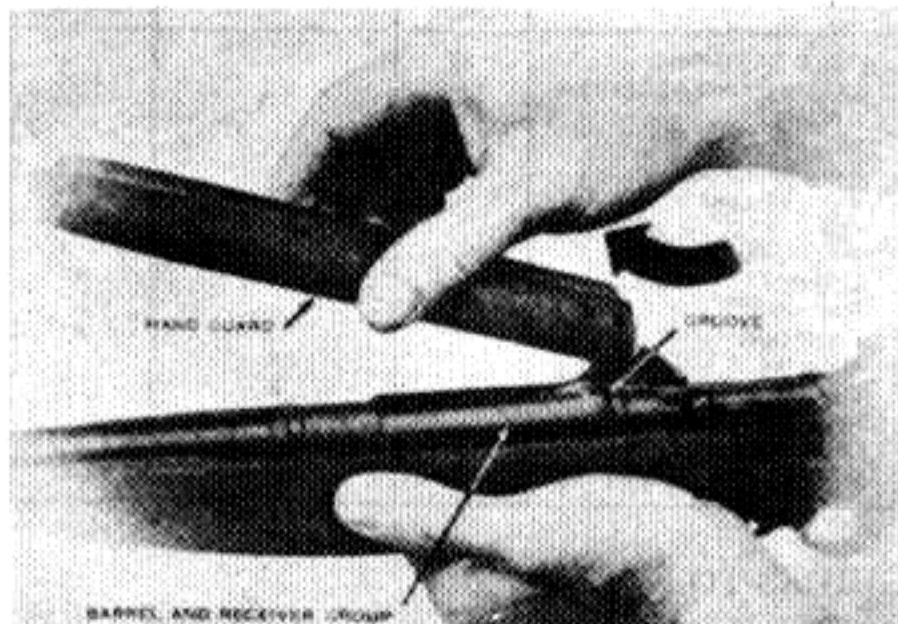

Figure 5. Removing the hand guard.
*d.* Move the hand guard forward until its rear end is disengaged from the groove in the front end of the receiver. Remove the hand guard (Fig. 5).